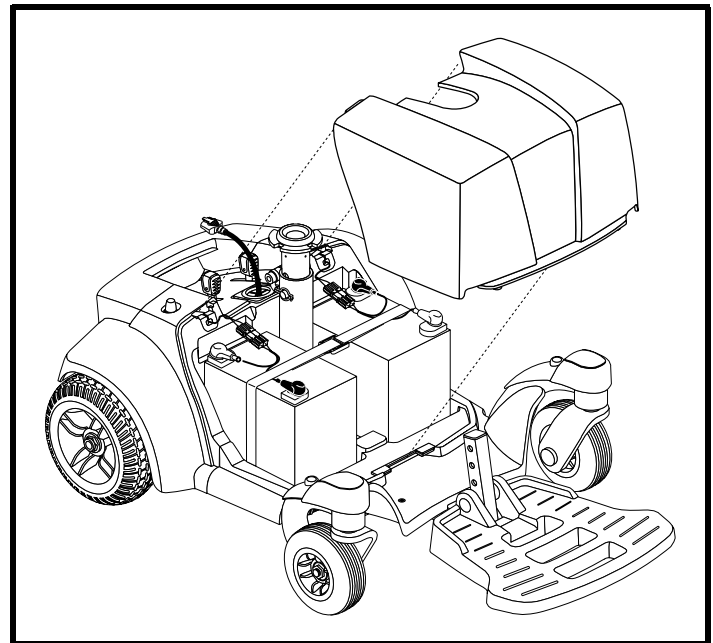

Figure 17. Battery Cover Removal
1. Lift up on the battery cover and slide the tabs out as shown in **figure 17**.
8. Reinstall the battery cover by aligning the tabs as shown in **figure 17** and pressing down.